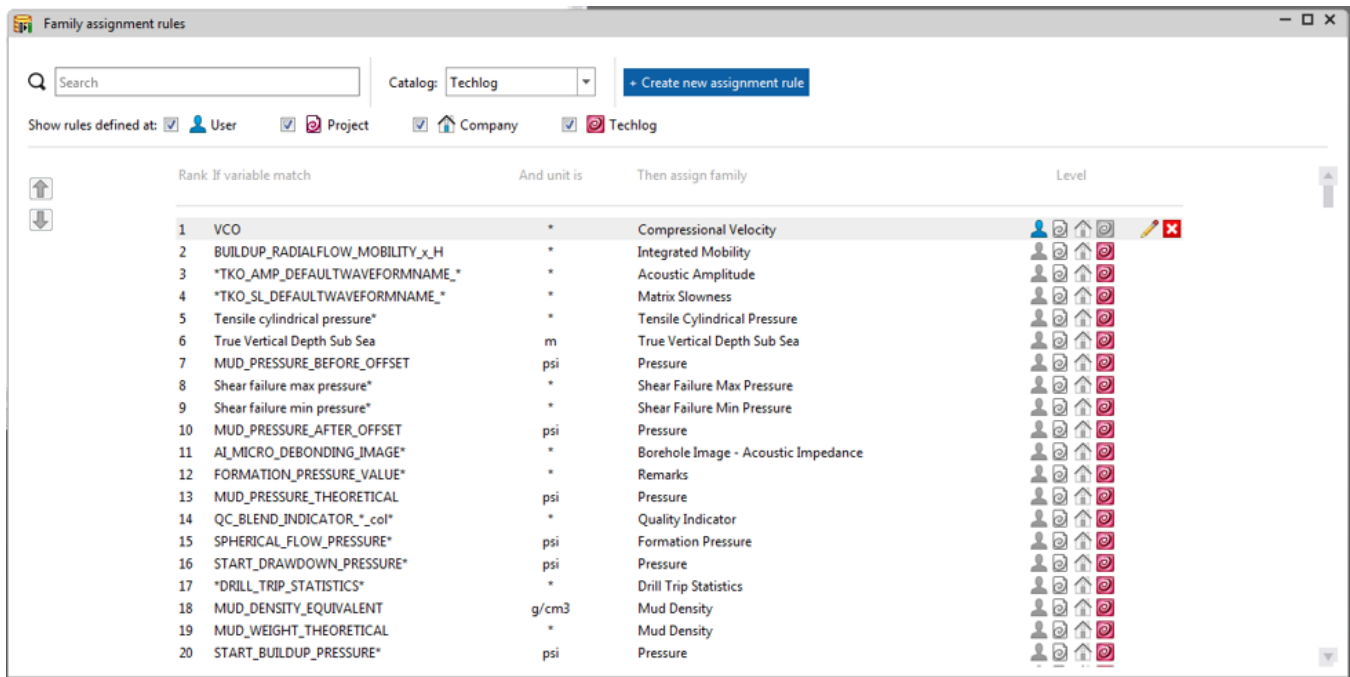

Figure 12: Family assignment rules window.
4. The Family assignment rules window will appear, showing the list of existing rules. Click on the blue Create new assignment rule button (Fig. 12).
6. To edit an existing Family assignment rule, simply click on the pencil icon to the far right (Fig. 12).
7. Close the Family assignment rules window shown in Figure 12.